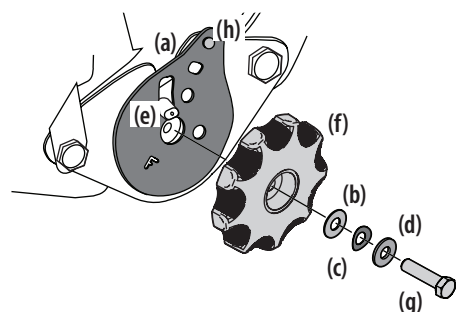

Figure 12
7. Remove the seat tilt knob assembly from the bag and install as shown in Figure 12.
NOTE: Be sure to orient the recliner plate (a) and install the plastic washer (b), spring washer (c) and metal washer (d) as shown in Figure 12. The plastic washer is on the inside.
8. Slide the recliner bearing plate (a) onto the recliner pin (e). Refer to Figure 12.
10. Use a wrench to hand tighten the hex screw (g) until the recliner knob (f) is difficult to turn. Refer to Figure 12.
11. Gradually loosen the hex screw (g) until the recliner knob moves freely. Do not loosen the hex screw (g) more than one full turn. Refer to Figure 12.
12. Securely install the 1/4" nut onto the clinch-stud (h) and rotate the recliner knob to check the operation of the seat. Refer to Figure 12.